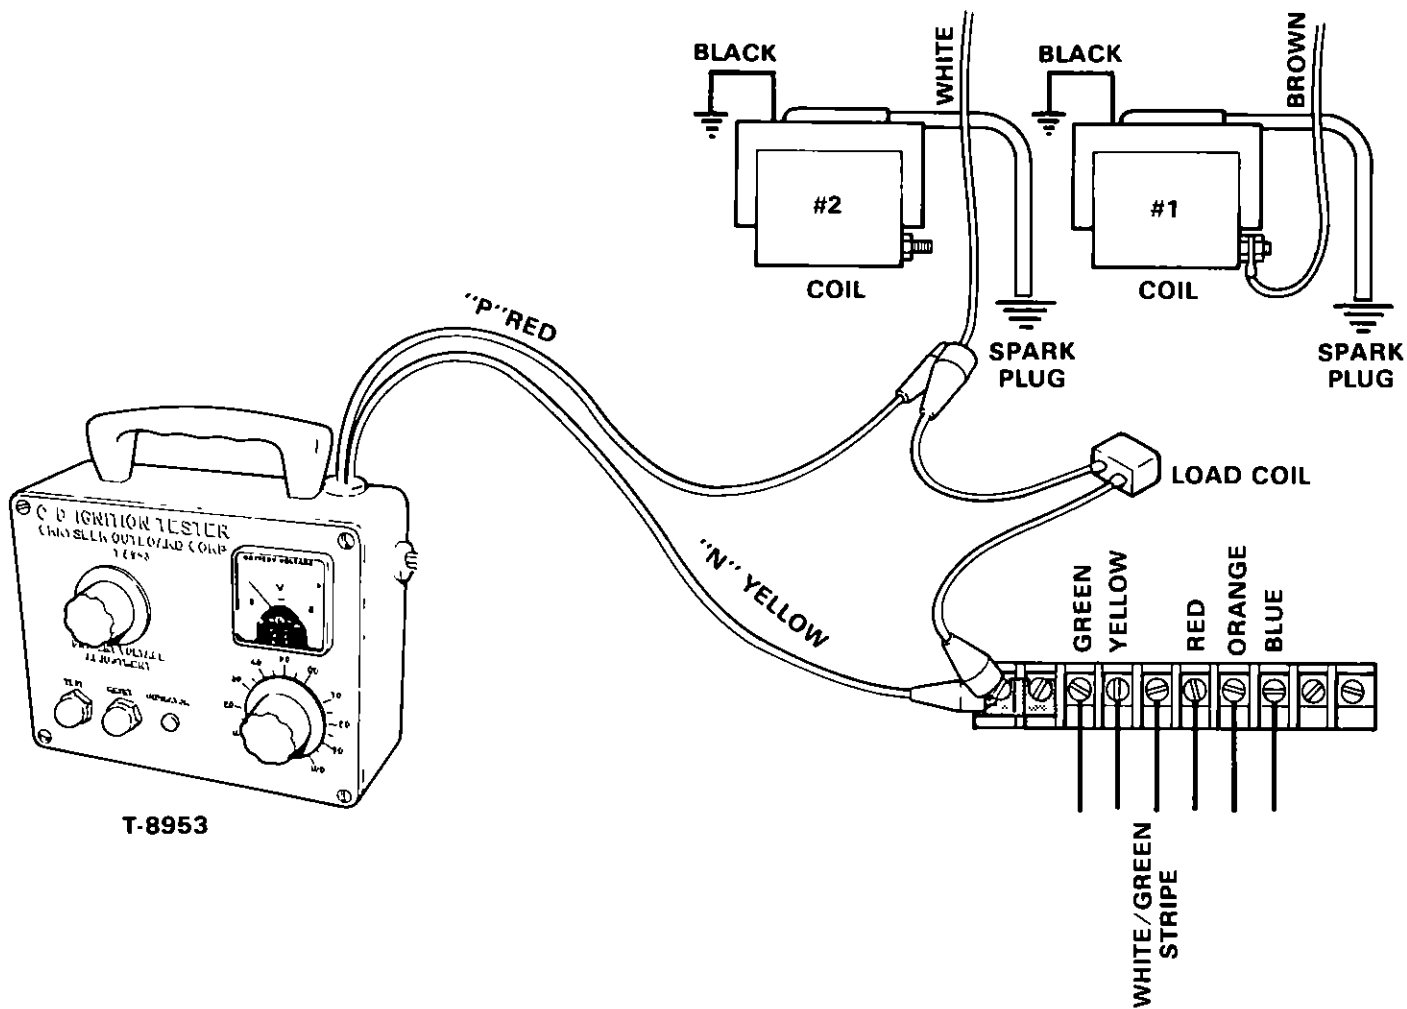

Figure 10
- 2 Clip one lead of load coil to white wire from C-D unit. Clip other load coil lead to ground terminal at terminal block, Figure 10
C-D unit (same wire as load coil in Step #2), Figure 10
- 4 Connect Tester "N" lead (yellow) to ground terminal, Figure 10